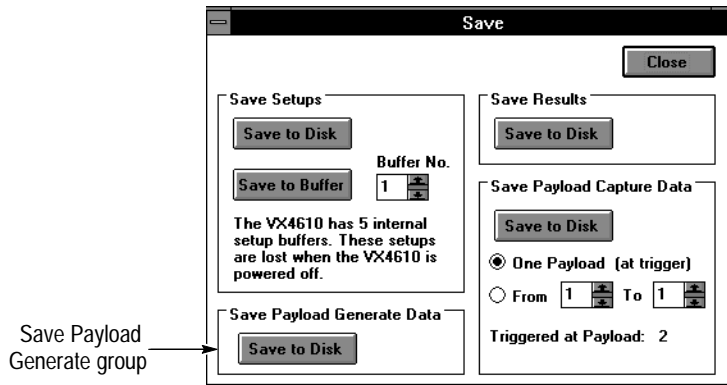

Figure 3–52: The Save dialog box
2. Click on the **SAVE** icon in the control and indicator bar to display the Save dialog box (see Figure 3–52).
3. Click on the **Save to Disk** command button in the Save Payload Generate Data group. This action displays the Save As dialog box (see Figure 3–53).